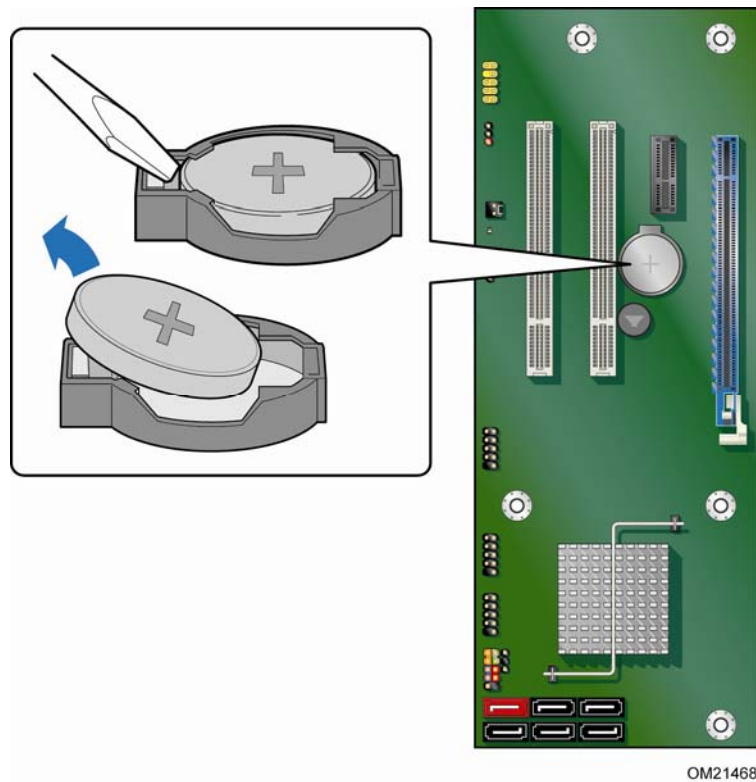

Figure 25. Removing the Battery
IF the voltage drops too low, the BIOS Setup program settings stored in CMOS RAM (for example, the date and time) might not be accurate. Replace the battery with an equivalent one. Figure 25 on page 59 shows the location of the battery.
4. Locate the battery on the board (see Figure 25).